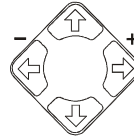

Figure 27: Navigation Control Keys
- Using the navigation control keys on the infra-red remote control transmitter (see Figure 14), to fine tune the zoom position (that is, to slowly zoom-in at any location on the screen)², as Figure 27 illustrates